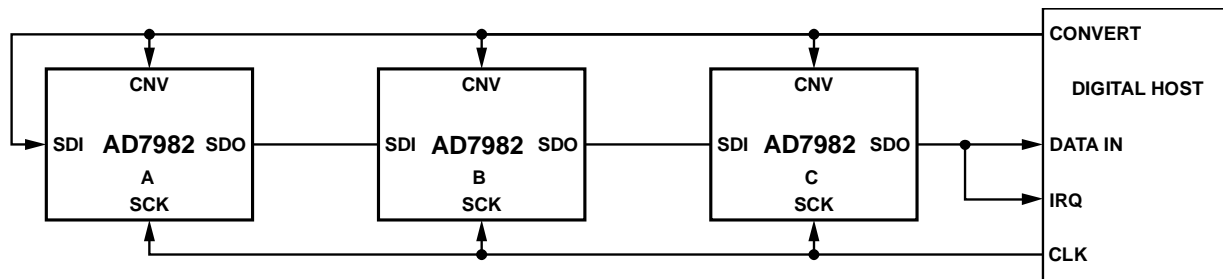
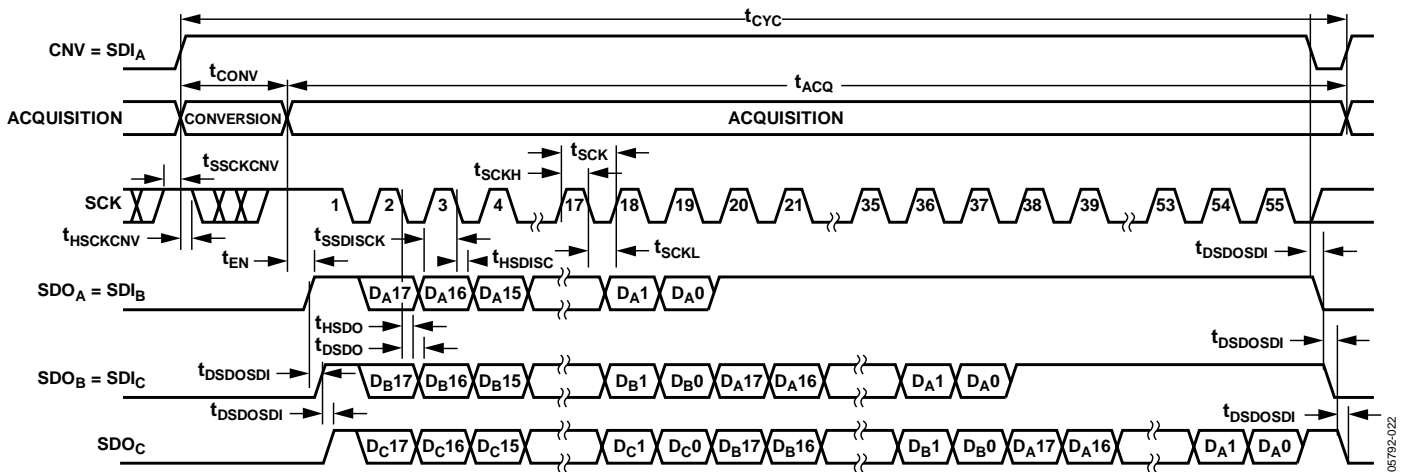

Figure 26. Chain Mode with BUSY Indicator Connection Diagram
Figure 27. Chain Mode with BUSY Indicator Serial Interface Timing
- In the chain mode, if SCK is high during the CNV rising edge (Figure 27).
A connection diagram example using three AD7982s is shown in Figure 26 and the corresponding timing is given in Figure 27.
subsequent data readback. When all ADCs in the chain have completed their conversions, the nearest ADC (ADC C in Figure 26) SDO is driven high. This transition on SDO can be used as a BUSY indicator to trigger the data readback controlled by the digital host. The AD7982 then enters the acquisition phase and powers down. The data bits stored in the internal shift register are then clocked out, MSB first, by subsequent SCK falling edges. For each ADC, SDI feeds the input of the internal shift register and is clocked by the SCK falling edge. Each ADC in the chain outputs its data MSB first, and $18 \times N + 1$ clocks are required to readback the N ADCs. Although the rising edge can be used to capture the data, a digital host using the SCK falling edge allows a faster reading rate and, consequently more AD7982s in the chain, provided the digital host has an acceptable hold time.